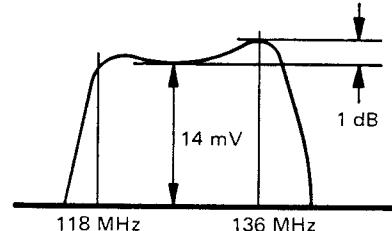

Figure 1
(1) Connect the output of the sweep generator to TP8001, and connect the oscilloscope through the linear detector to TP8002.
(2) Tune the receiver to 118.000 MHz, set the sweep generator center frequency to 127 MHz, and adjust T8011 – T8015 for the passband waveform shown in Figure 1.